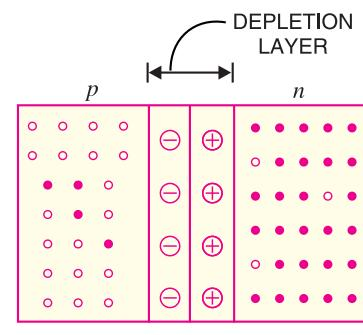

**Fig. 5.18**
**Formation of *pn* junction.** In actual practice, the characteristic properties of *pn* junction will not be apparent if a *p*-type block is just brought in contact with *n*-type block. In fact, *pn* junction is fabricated by special techniques. One common method of making *pn* junction is called *alloying*. In this method, a small block of indium (trivalent impurity) is placed on an *n*-type germanium slab as shown in Fig. 5.18 (i). The system is then heated to a temperature of about 500°C. The indium and
some of the germanium melt to form a small puddle of molten germanium-indium mixture as shown in Fig. 5.18 (ii). The temperature is then lowered and puddle begins to solidify. Under proper conditions, the atoms of indium impurity will be suitably adjusted in the germanium slab to form a single crystal. The addition of indium overcomes the excess of electrons in the *n*-type germanium to such an extent that it creates a *p*-type region.
As the process goes on, the remaining molten mixture becomes increasingly rich in indium. When all germanium has been redeposited, the remaining material appears as indium button which is frozen on to the outer surface of the crystallised portion as shown in Fig. 5.18 (iii). This button serves as a suitable base for soldering on leads.